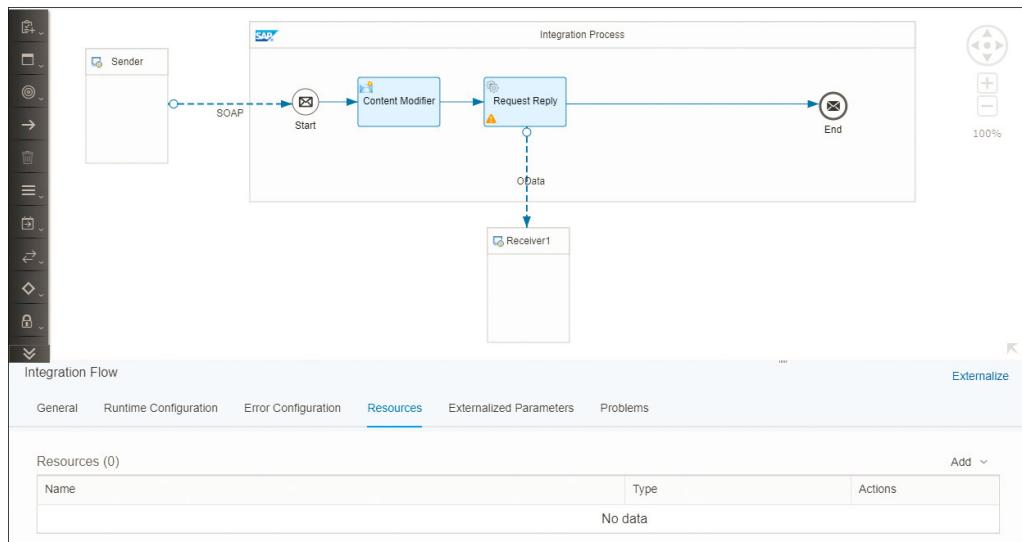

Figure 4.65 The Resources View Tab
The **Resources** view is a location from which all of the artifacts listed in Table 4.3 can be centrally managed. From this view, resources can be opened in their respective editors, downloaded, and deleted. After opening an integration flow, click on the area outside the integration flow model for the **Resources** view to appear at the bottom tabs, as shown in Figure 4.65.
2. Select the **Resources** tab at the bottom section of the integration flow (refer to Figure 4.65).